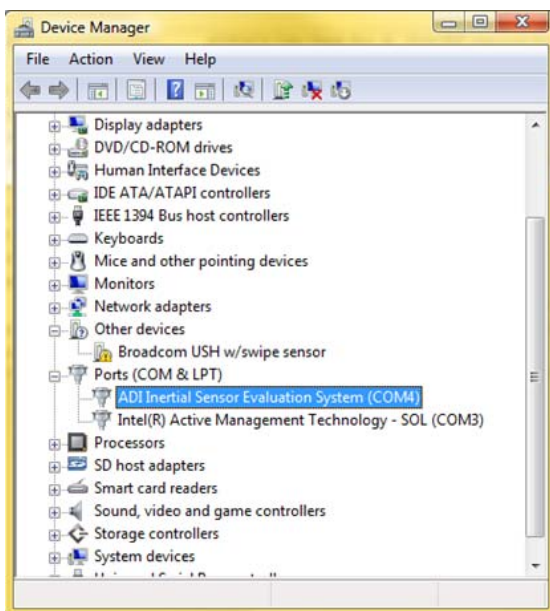

Figure 6. Device Manager Showing the COM Port Number
2. Underneath **Tasks**, select **Device Manager**. Windows Vista may request that the user allow access to this panel, and administrative privileges may also be required. The window shown in Figure 6 should now open.
The **Device Manager** window should look like the window shown in Figure 6.